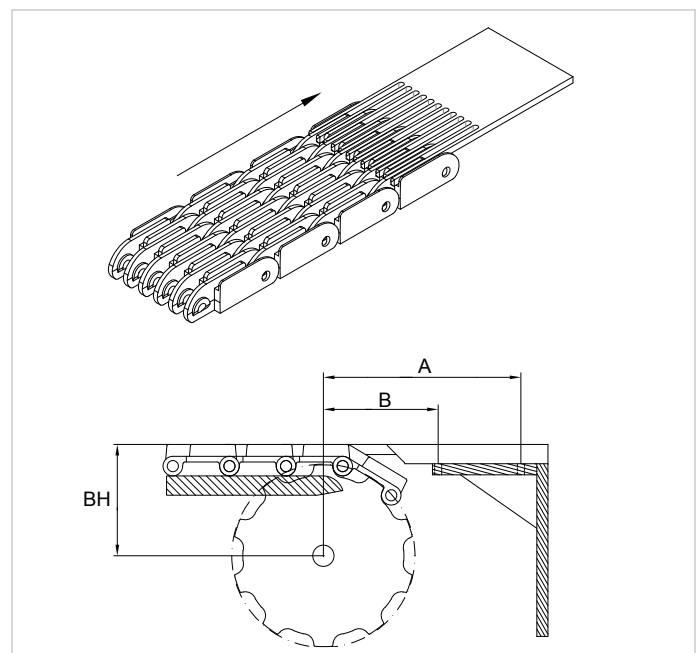

Figure 540
**Fingerplate installation for Series 208 RR and FF620-WR fingerplate positioning (Fig. 540):** Fingerplates are mounted using shoulder bolts, with the upper surface of the fingerplate positioned 1 mm (0.4") below the top surface of the belt.